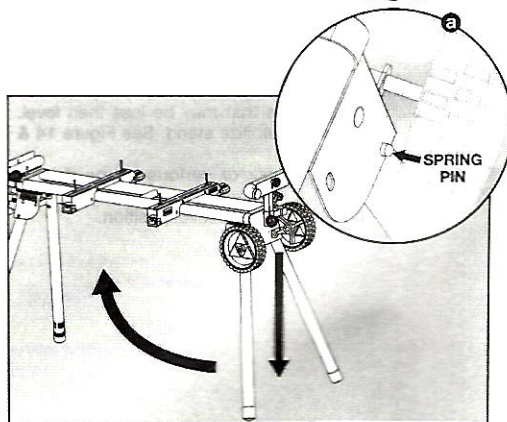

FIGURE 17
3. Lift wheel end of stand and collapse legs on wheel end of stand as shown in Figure 17 & 17a.